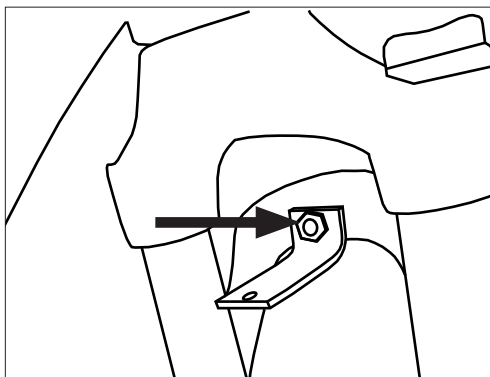

Fig. 19: Fender mounting bolt nut on fork arch
1. Remove the nut from the mounting bolt on the fork arch by turning it counter clockwise (Fig 19). An L shaped bracket is being held in place by the nut. Slide the L bracket off the bolt and place the nut and bracket aside.